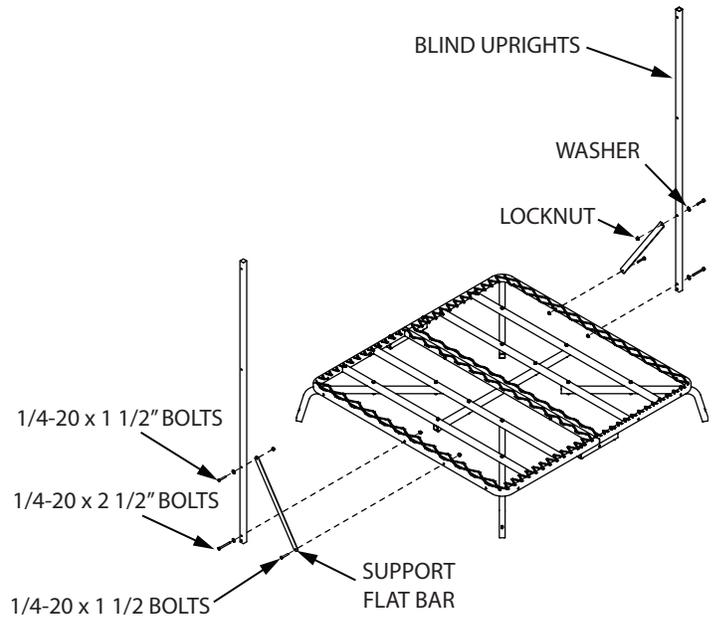

FIGURE 3
5. Attach (2) blind uprights (TWR18) to the long sides of both platforms using (2) provided 1/4-20 x 2-1/2" bolts, locknuts and washers. **SEE FIGURE 3.**
7. Attach (4) upright support flat bars (SL8) to the blind uprights and platform using (8) provided 1/4-20 x 1-1/2" bolt, locknuts and (4) washers. **SEE FIGURE 3 & 4.**